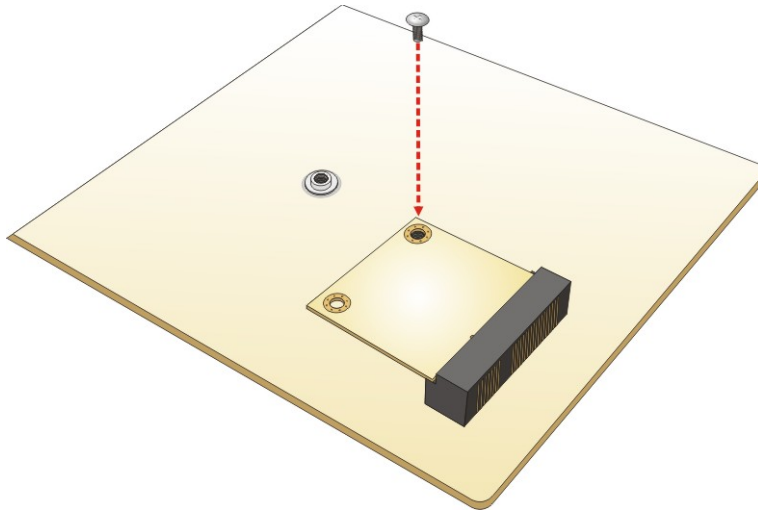

Figure 4-11: Securing the Half-size PCIe Mini Card
Step 5: Secure the half-size PCIe Mini card with the retention screw previously removed (Figure 4-11).